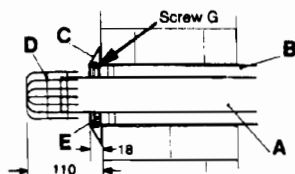

Fig. 17
Separate the two tubes by removing screw G (fig 17).
Ensure inner and outer terminal tubes are firmly fitted together with screw G (fig 17). Push the terminal tubes through the wall until the face of the outer tube protrudes 18mm from the face of the wall (fig 17). The terminal grill (D) will then protrude 110mm from the wall face.
NOTE: The two tubes must be separated by removing screw G fig 17 before cutting.
- 5.5.15** Check also that the outer end of the flue projects as indicated in fig 17.
- 5.5.18** Seal the peripheral gap around the outer tube with cement or mastic and slip the cosmetic flexible plastic collar (fig 17) item C) into groove on the pipe. This operation can only be carried out with external access. Seal the internal wall face around the air duct.